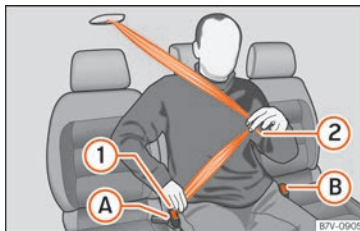

**Fig. 14** Fasten the seat belt on the centre seat in the second row of seats
- Use latch plate of the belt » Fig. 14 ① to pull the seat belt down. Do **not** twist the seat belt when doing so » ⚠.
- Engage the latch plate ① in the buckle of the corresponding seat A.
- Use the latch plate » Fig. 14 ② to pull the seat belt across your lap.
- Engage the latch plate ② in the buckle of the corresponding seat B.
- Press the red button on the buckle » Fig. 14 A. The latch plate will come out of the buckle.
- Press the red button on the buckle » Fig. 14 B. The latch plate will come out of the buckle.